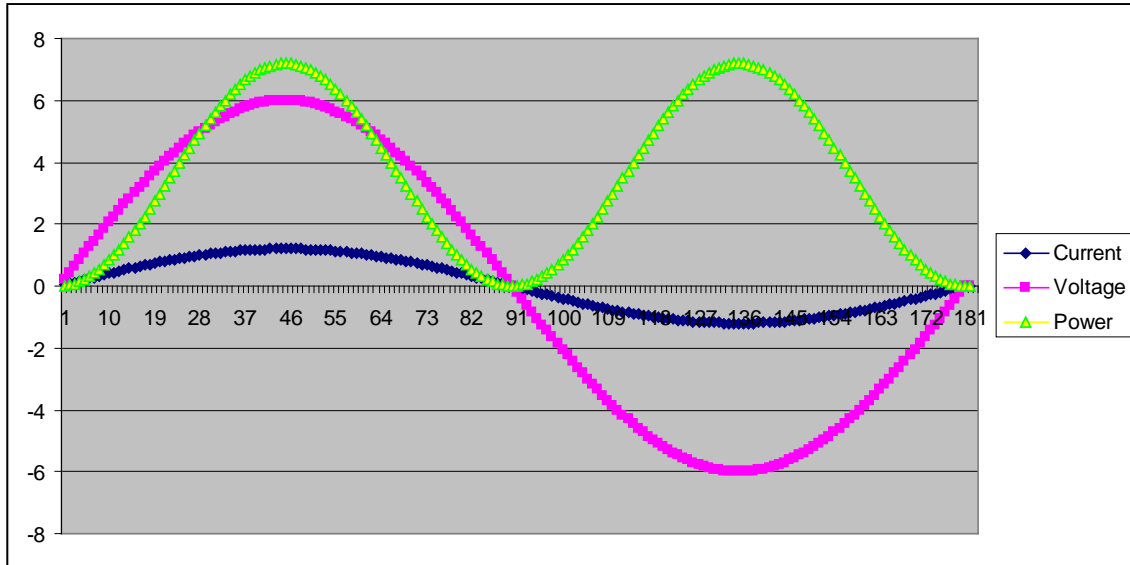

Figure 2
- The power delivered by a single-phase circuit is pulsating. In Figure 2, sinusoidal wave patterns of voltage, current and power are shown for a resistance load. As the figure shows, the phase between the voltage and current is the same.